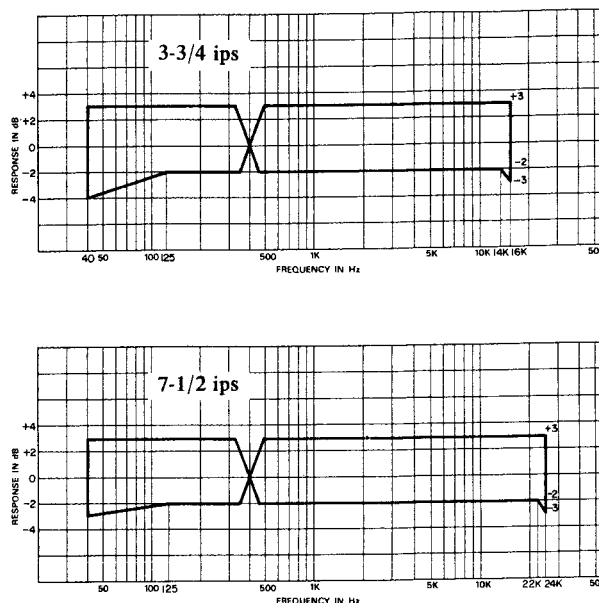

Fig. 8-5 Frequency Response — PLAYBACK —
17. Play Tape and compare reading on VTVM with the response limits given in Fig. 8-5.